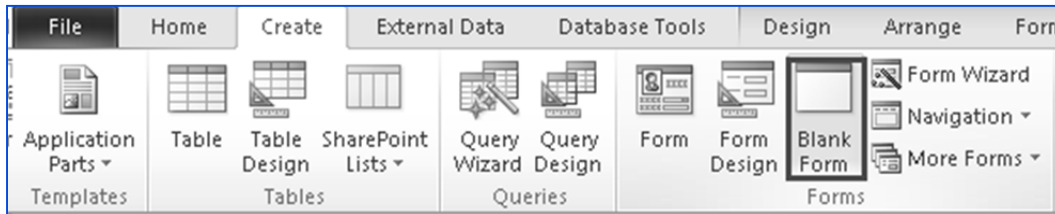

Fig. 2.3.7: Open a blank Form
1. On the *Create ribbon -> Forms* tab, click *Blank Form* to create a new form, as shown in Fig. 2.3.7.